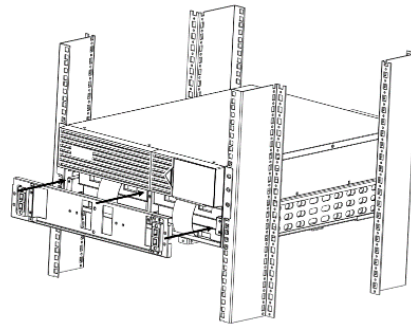

Figure 8
6. Re-attach the battery retention bracket (Fig. 8)